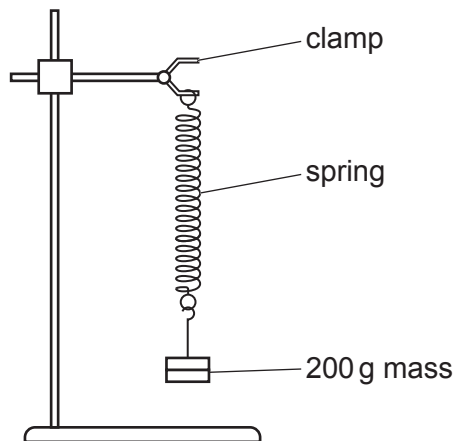

Fig. 5.2 (not to scale)
- She suspends a 200 g mass on the spring as shown in Fig. 5.2.